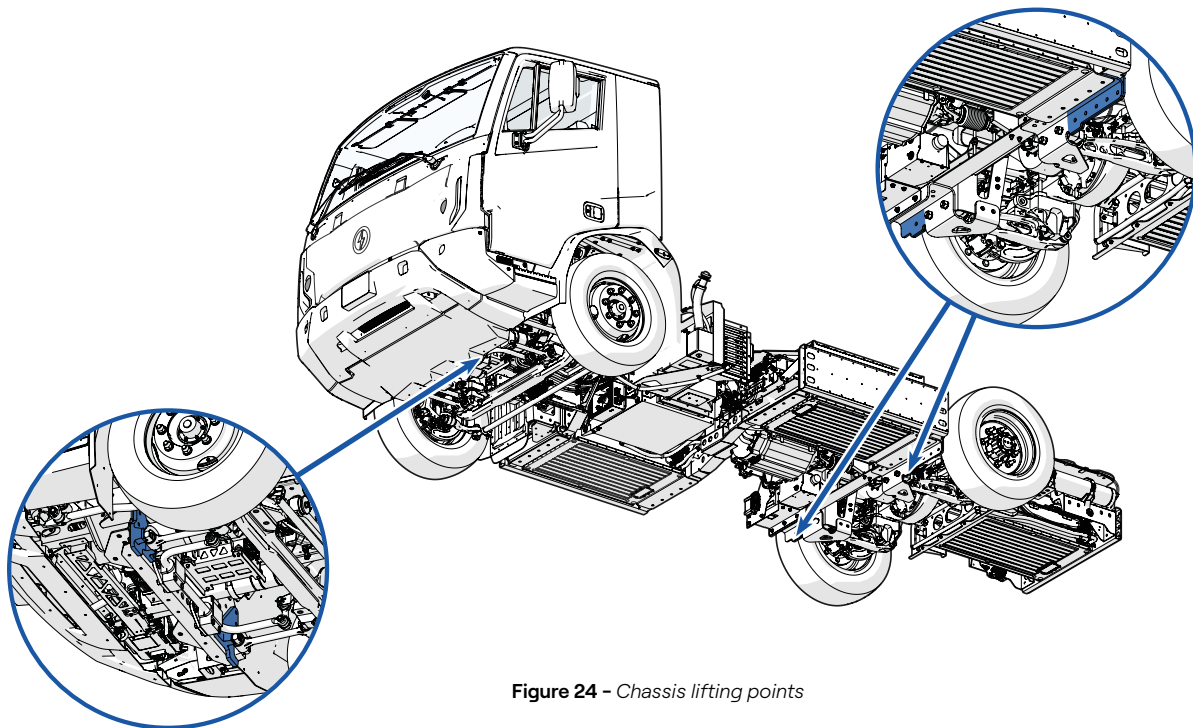
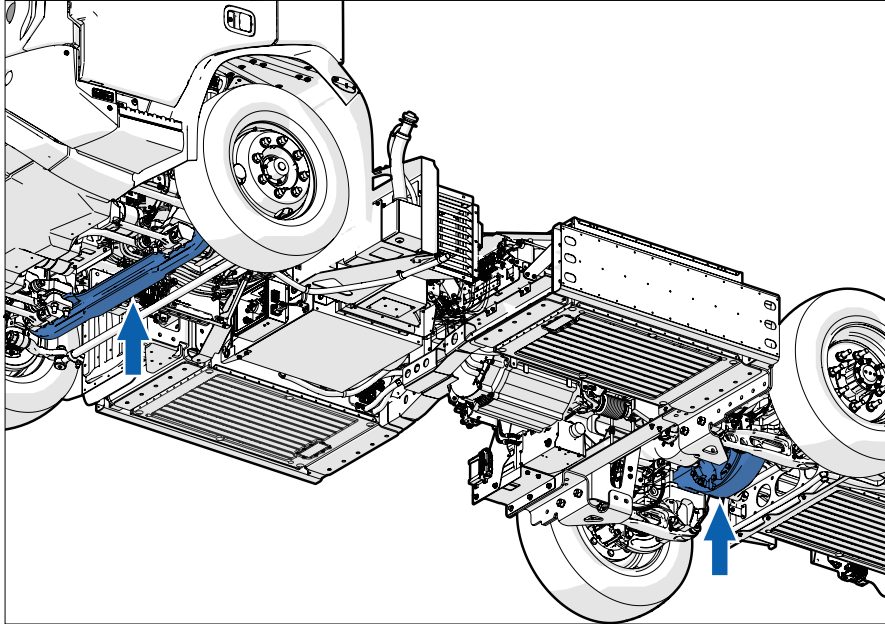

Figure 24 - Chassis lifting points
Figure 25 - Axle lifting points
3. Use only certified jacks and stands of sufficient capacity to support the vehicle. Following the jack manufacturer's recommendations, place the jack securely at the lifting points illustrated in **Figure 24** and **Figure 25**.